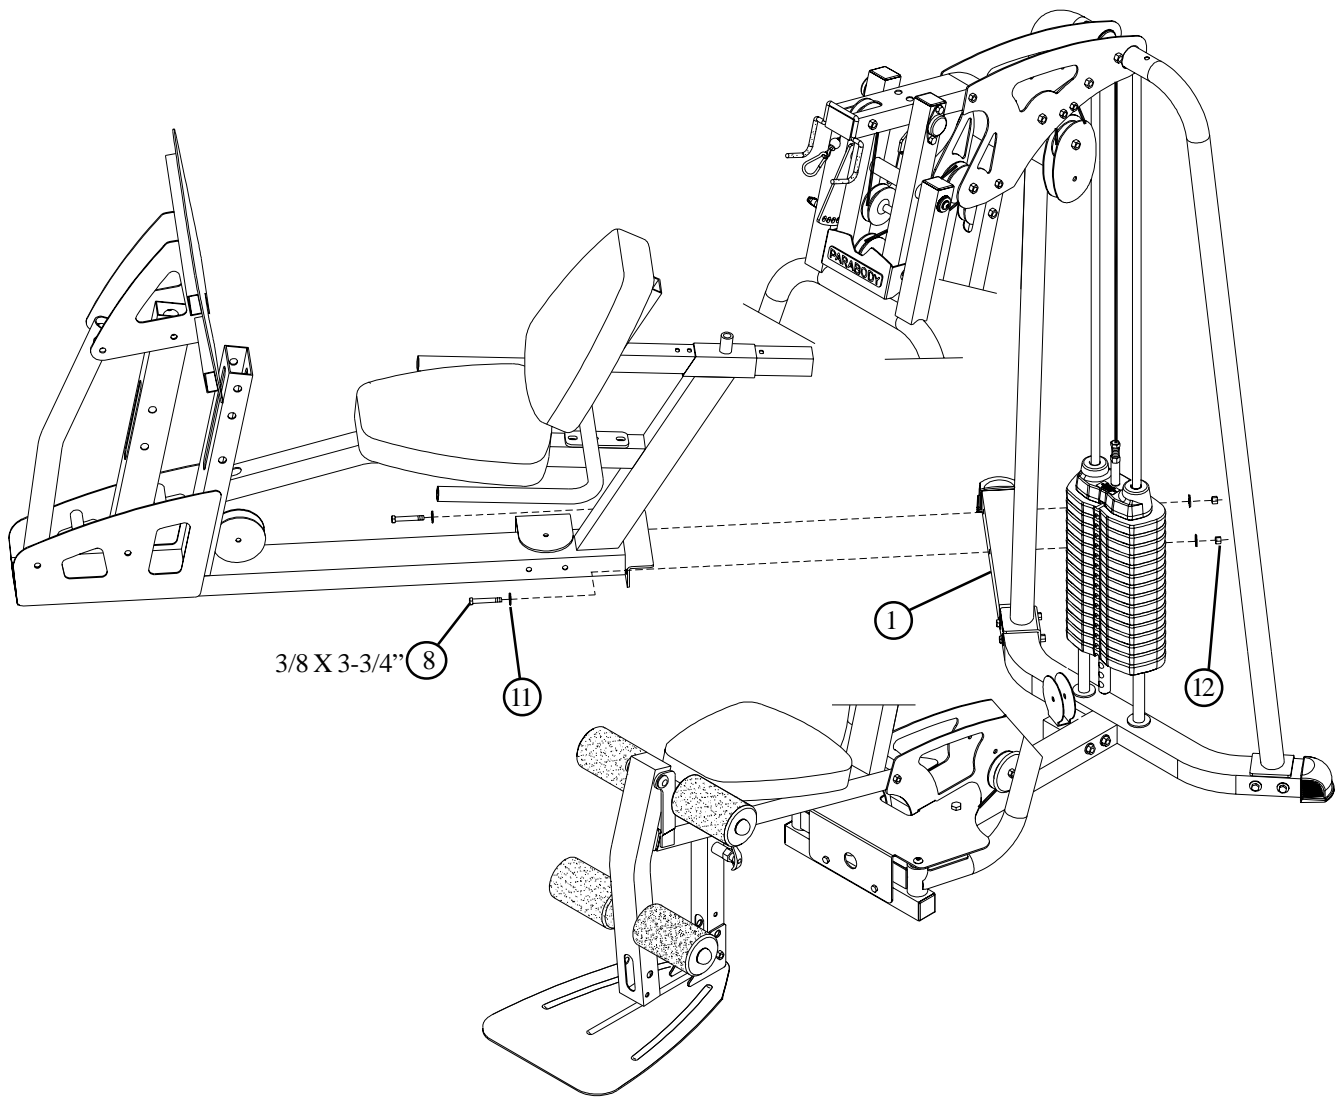

**FIGURE 2**
- Install PULLEY HOUSING (2) using two 3/8 X 5-3/4" BOLTS (6), four 3/8" WASHERS (11) and two 3/8" LOCK NUTS (12) as shown in FIGURE 2